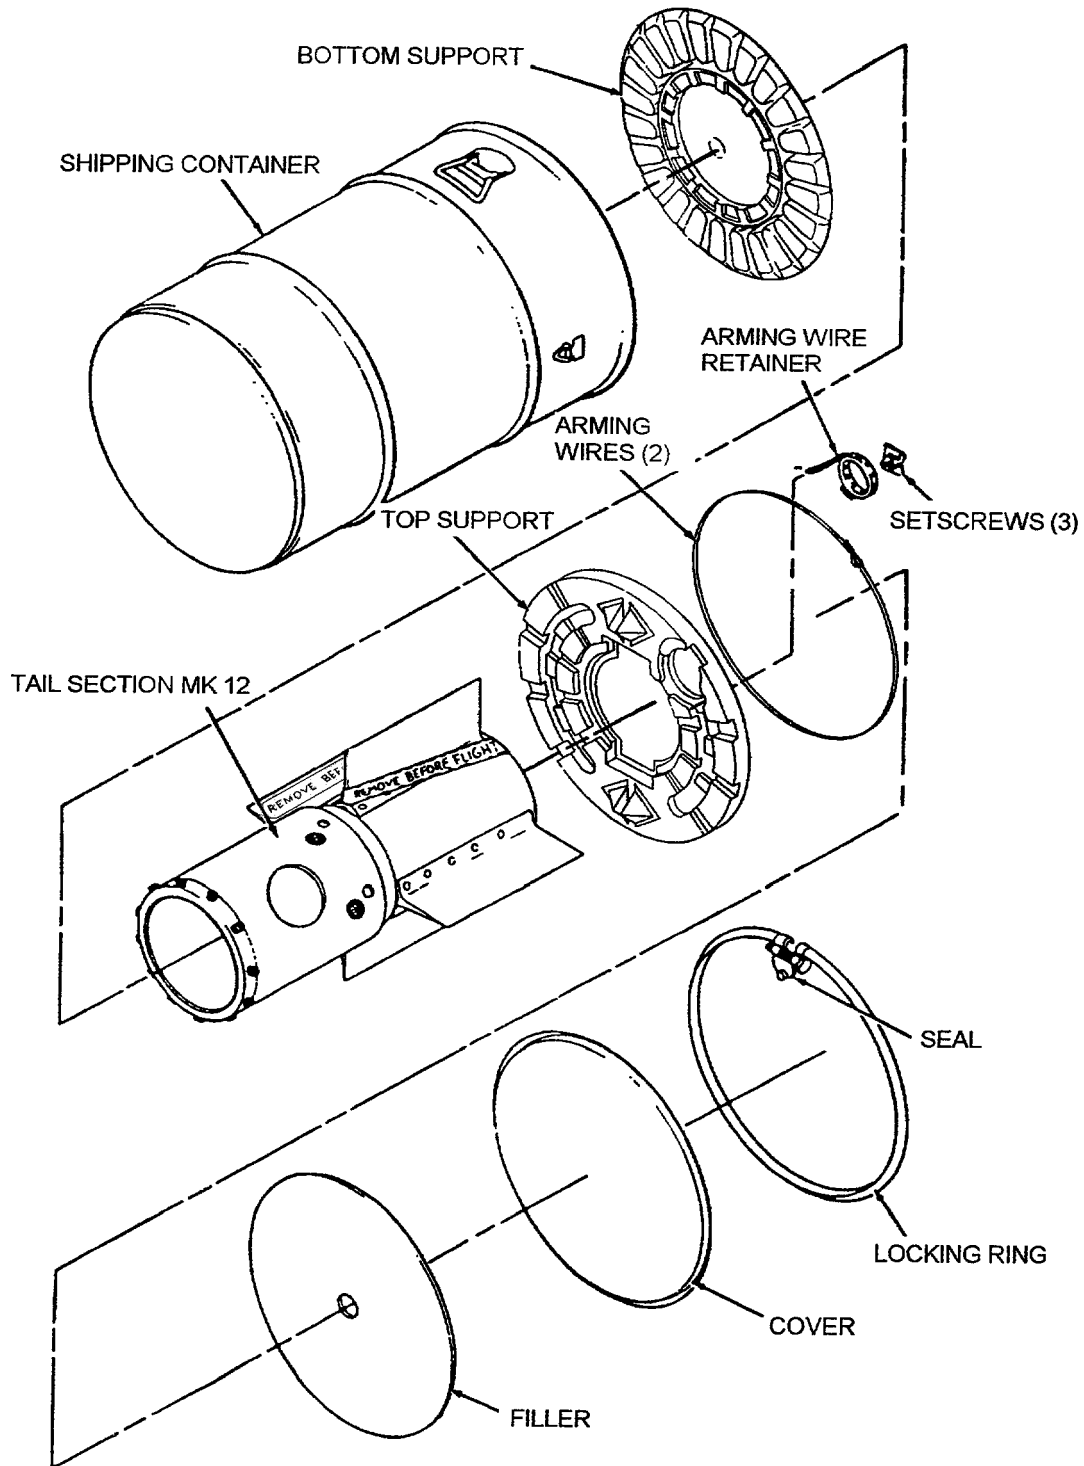
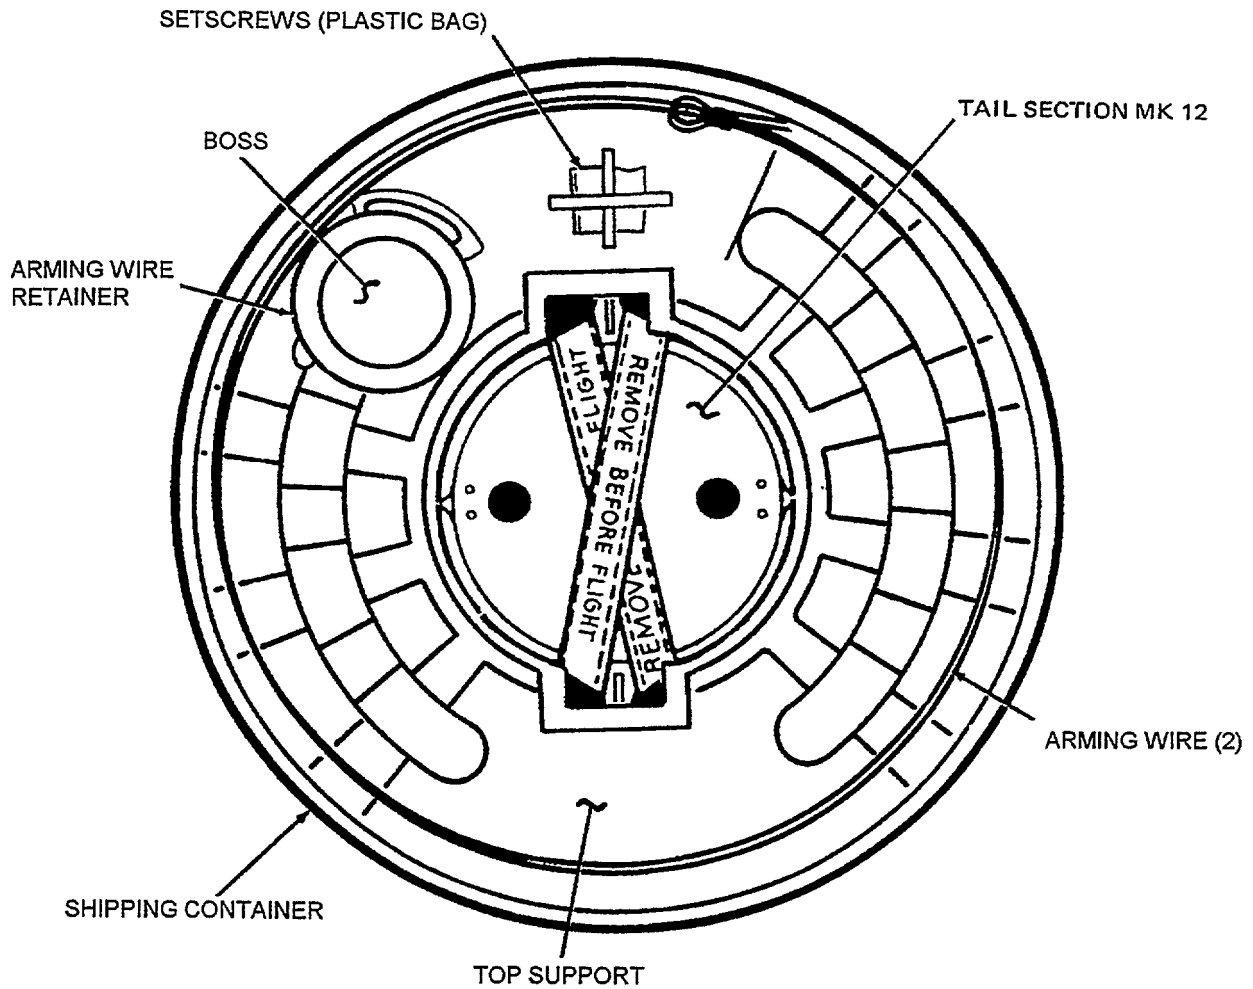

Figure A-4. Kit Flight Gear Mk 166
Figure A-5. Packaging Accessories in Shipping Container
- a. Referring to Figure A-4, prepare shipping and storage container (drum type) for packing Tail Section Mk 12 as follows:
- (1) Remove locking ring from container.
- (2) Remove cover and gasket.
- (3) Remove filler and top support.
- (4) Verify that bolts on aft end of tail section are safety wired.
- (5) Verify that safety harness is installed.
- (6) If ECI 0285 has been performed, verify the warning streamer is installed.
- b. Referring to Figure A-4, package tail section in container as follows:
- (1) Being careful not to lift the tail section by its safety harness, place the tail section in container, fin-end up, so that the tail section is centered on bottom support.
- (2) Position top support over end of tail section with fins aligned with slots in support as shown.
- c. Referring to Figure A-5, containerize the two arming wires 5561721, the arming-wire retainer, and three setscrews MS51020 as follows:
- (1) Form a 22-inch coil of the two arming wires, binding them together with pressure-sensitive tape; then place the coiled wires over top support as shown.
- (2) Insert the rod of the retainer into hole of top support; then position the ring of the retainer on the boss of top support as shown.
- (3) Place the three setscrews in a 3 x 3-inch plastic bag and seal with pressure-sensitive tape; then place bag in recess of top support as shown.
- e. Referring to Figure A-4, secure tail section in container as follows:
- (1) Place filler over top support.
- (2) Position cover in place on drum, secure with locking ring, and seal.